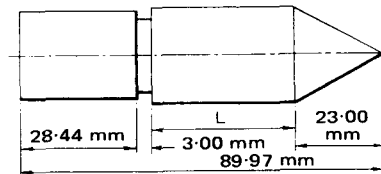

Fig. 1.9
9. Find dimension L for the component shown in Fig. 1.9.